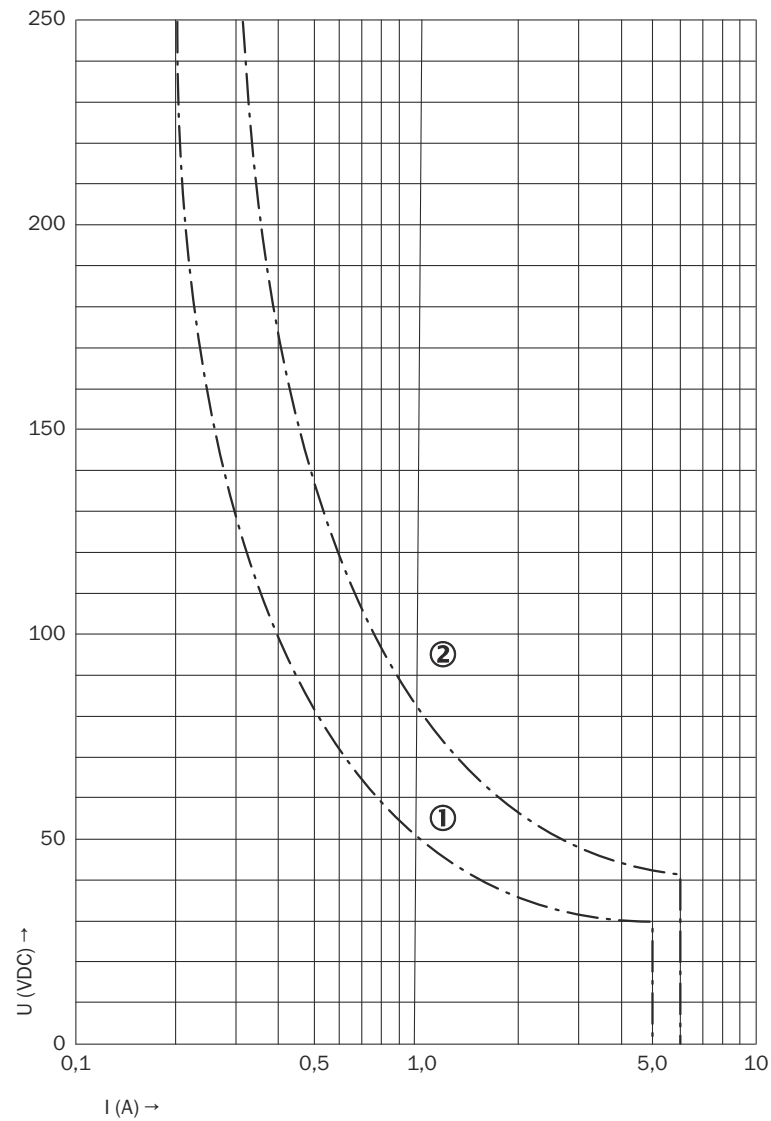
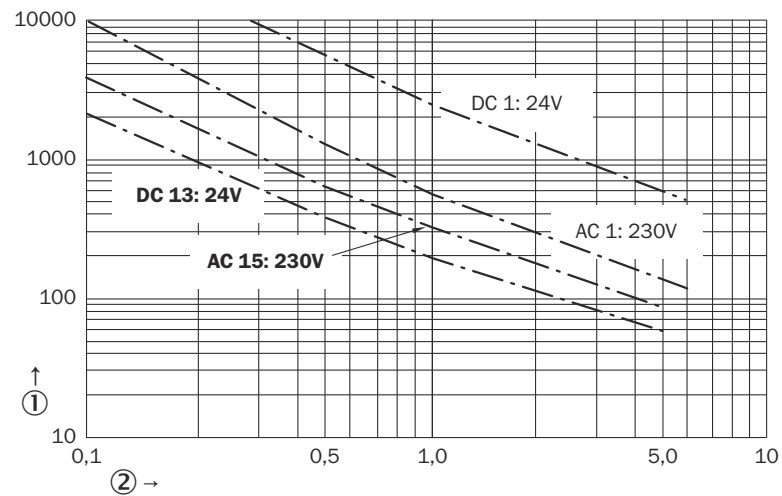

Figure 10: Switch-off delay without continuous arcing
Figure 11: Electrical endurance of contacts 13/14 and 23/24
3) If service life curve is adhered to, see figure 11, page 26.
Switching current for enabling current paths	10 mA ... 6 A, see figure 10, page 25 , see figure 11, page 26
DC switching capacity	0.1 W ... 200 W, see figure 10, page 25